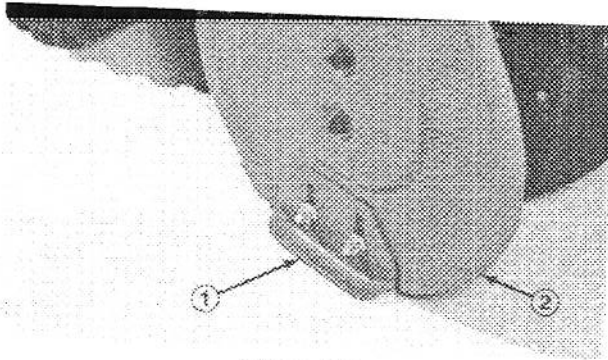

Figure 25
1. Move snowthrower to a level surface. Next, loosen four flange nuts (Fig. 25) securing both skids to auger side plates. Skids must slide up and down.
3. Loosen four flange nuts (Fig. 25) securing both skids to auger side plates. Next, slide skids down as far as possible so auger is as far from level surface as skid adjustment allows; then tighten flange nuts.